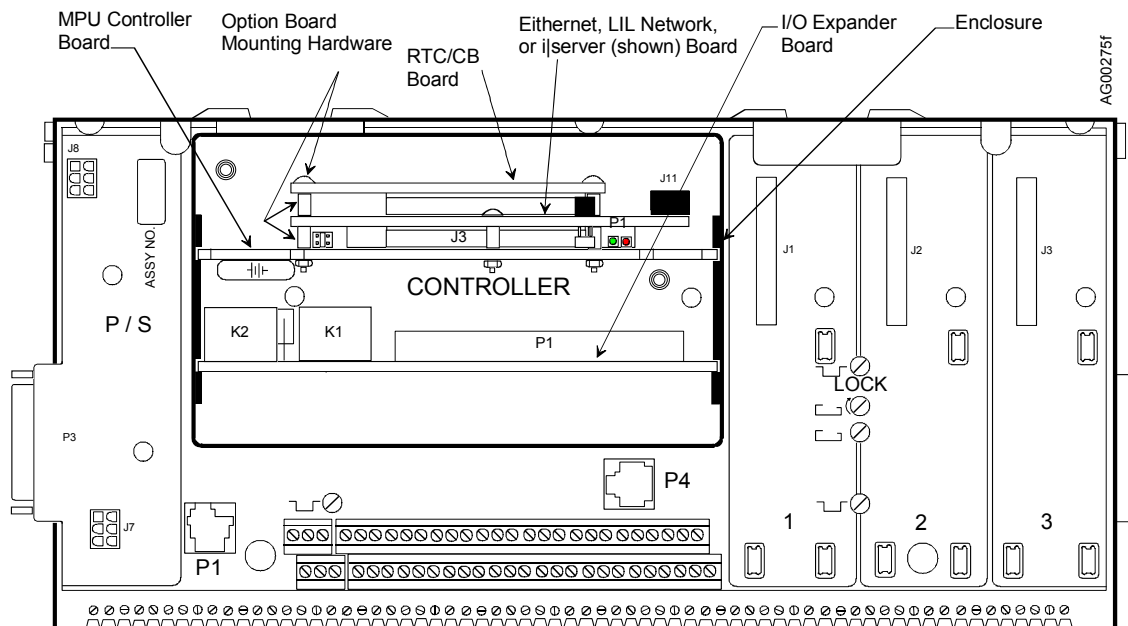

FIGURE 2 Controller Module, Circuit Board Locations
5. Firmly seat the MPU Controller board and, if installed, I/O Expander board. Do not use excessive force. See Figure 2 for board location.